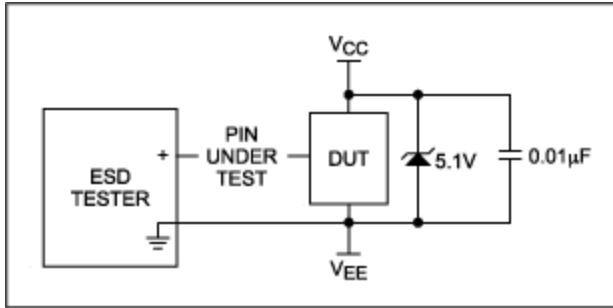
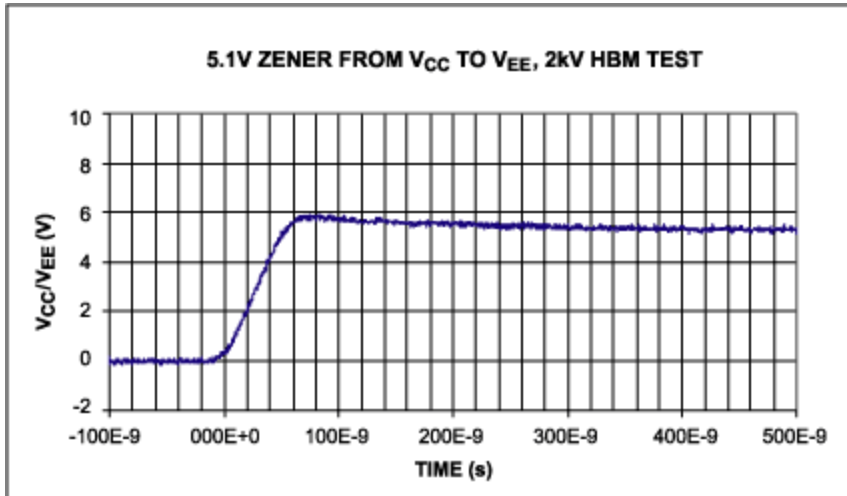

Figure 8. Zener ESD protection diode.
Figure 9. Improved clamping with a Zener protection diode (measured data).
- Add external clamps, such as Zener diodes in **Figure 8**, to keep the ESD voltages below the absolute maximum rating of the device (**Figure 9**).